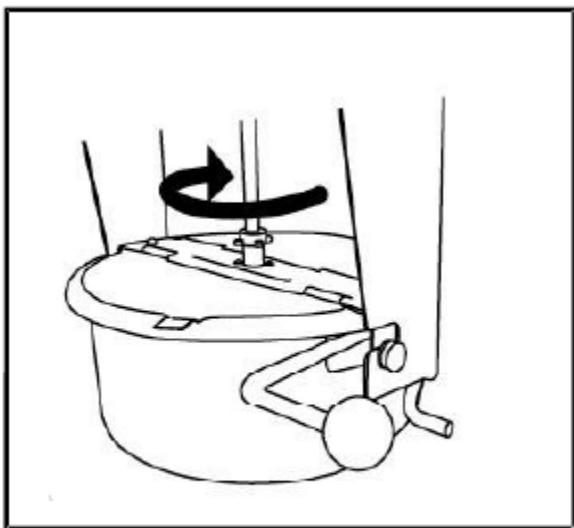

Fig. 3
7. Switch the **Stirrer** to **ON** (I). (Fig. 3)